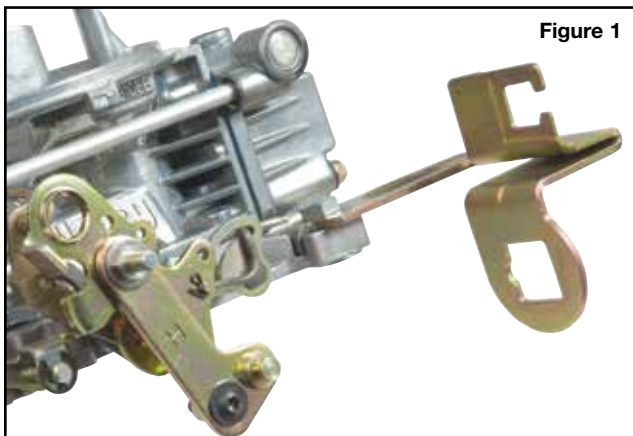

Figure 1
1. Install the Sonnax TV corrector plate onto the carburetor throttle arm (**Figure 1**). Align the TV and throttle stud holes of the TV corrector plate with the TV and throttle holes on the carburetor's throttle arm. Make sure the new TV stud faces away from the carburetor.
1. Install Sonnax TV corrector plate onto the carburetor throttle arm (**Figure 1**). Align the TV and throttle stud holes of the TV corrector plate with the TV and throttle holes on the carburetor's throttle arm. Make sure the new TV stud faces away from the carburetor.